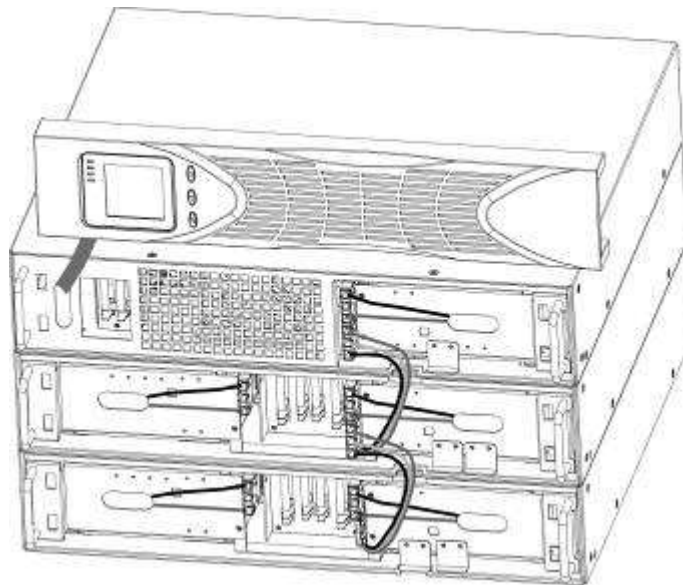

Figure13 Typical EBP Installation
3. For the bottom (or only) EBP, remove the EBP cable knockout on the top of the EBP front cover. See Figure 13 for the location of the top EBP cable knockout.
4. If you are installing more than one EBP, for each additional EBP remove the EBP cable knockout on the top and bottom of the EBP front cover. See Figure 13 for the location of the EBP cable knockouts.
5. Plug the EBP cable(s) into the battery connector(s) as shown in Figure 13. Up to four EBPS may be connected to the UPS. Connect black to black. Press the connector tightly together to ensure a proper connection.